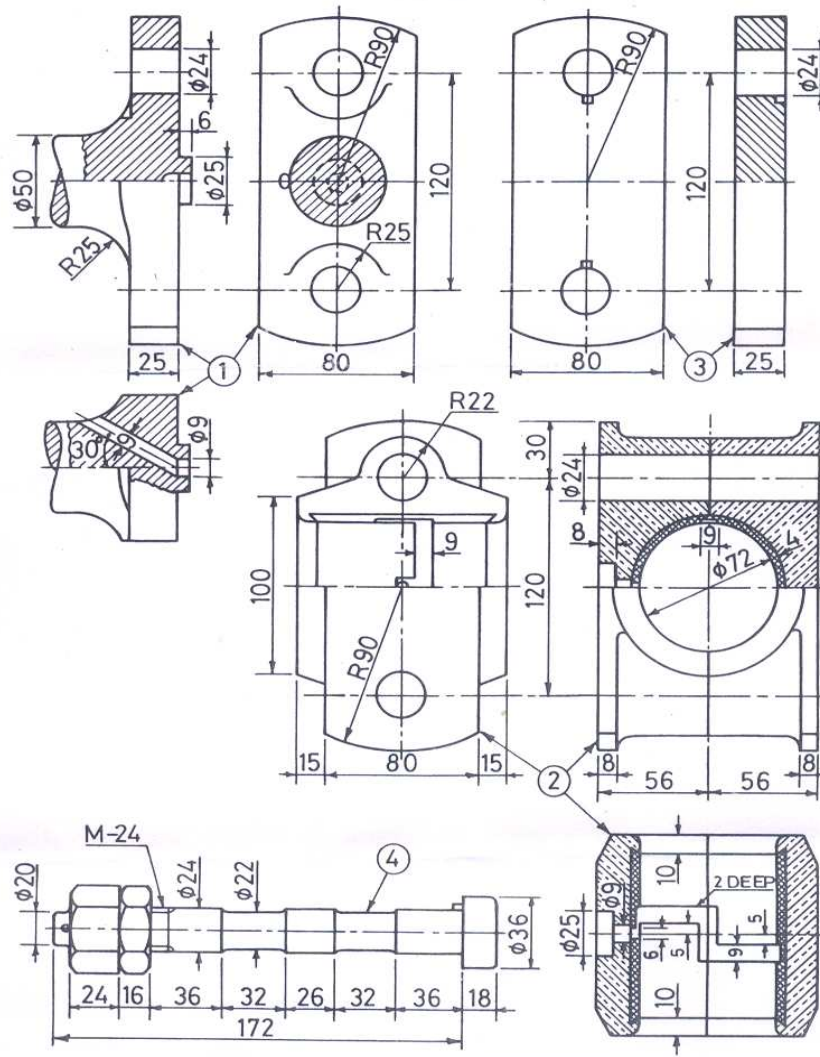

Figure 4:
2. Assemble the parts of box-type connecting rod end shown in figure 4 and draw.